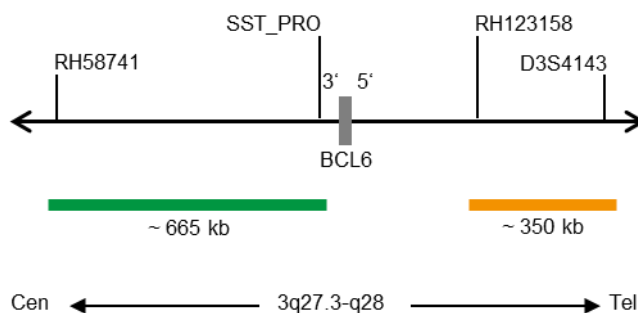

Fig. 1: BCL6 Probe map (not to scale)
- ZyGreen (excitation 503 nm/emission 528 nm) labeled polynucleotides (~6.0 ng/μl), which target sequences mapping in 3q27.3\* (chr3:186,737,897-187,403,834) proximal to the BCL6 breakpoint region (see Fig. 1).
- ZyOrange (excitation 547 nm/emission 572 nm) labeled polynucleotides (~2.5 ng/μl), which target sequences mapping in 3q27.3-q28\* (chr3:187,744,962-188,097,195) distal to the BCL6 breakpoint region (see Fig. 1).